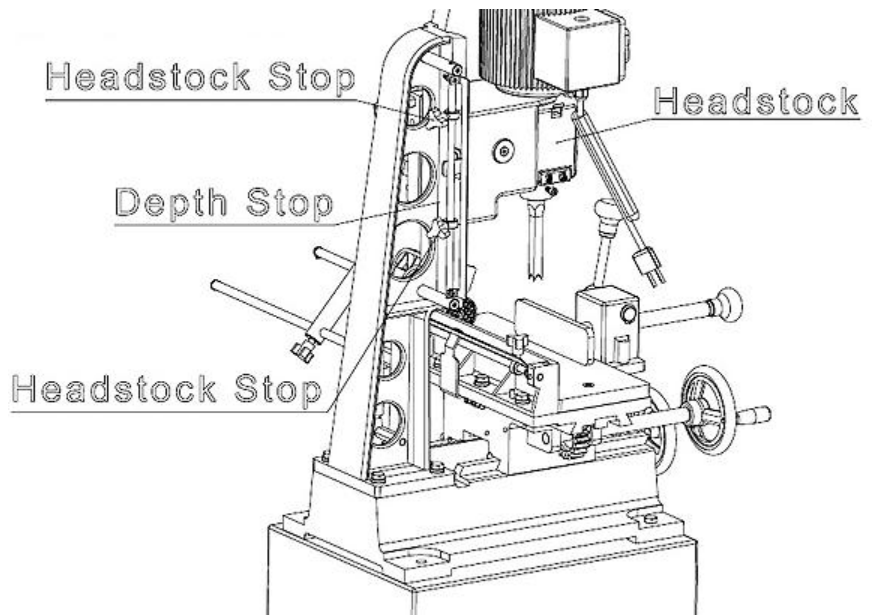

Fig 4
1. Set depth stop to the required depth of cut. See Figure 4.